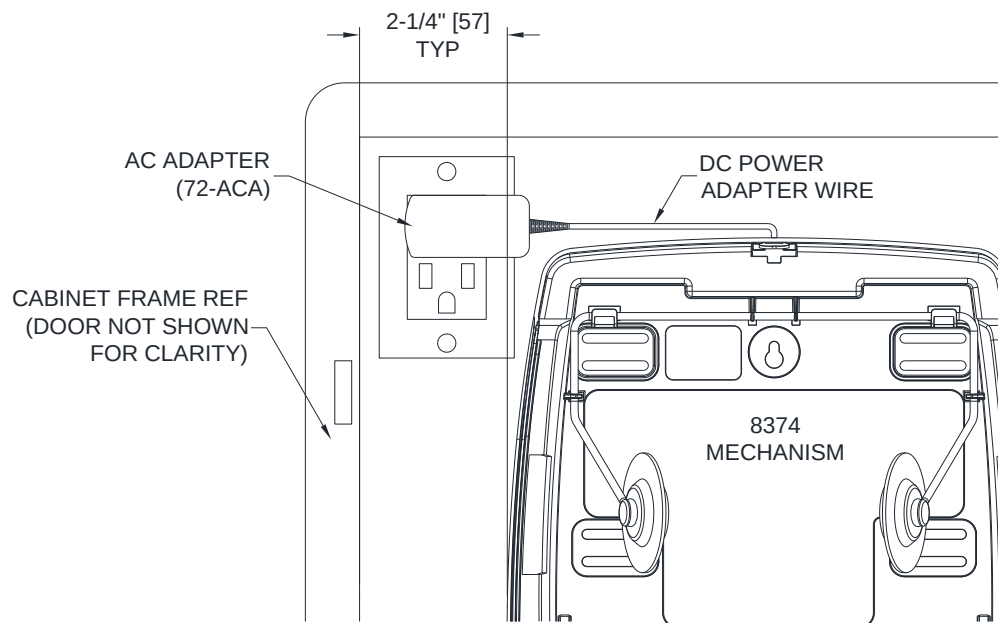

Fig. 4
1. The supplied electrical utility box is fastened with two (2) #8 - 32 x 3/8" pan-head screws (supplied) into the threaded weld nuts provided in the cabinet enclosure (see Fig. 4).
Unit will not activate at all	• Make sure batteries (if using) are in the battery compartment and in the correct configuration as shown in the graphics engraved inside the battery compartment. • Make sure AC plug is plugged into one of the utility box outlets and Ø2 plug is fully engaged into socket (see Figs. 4 and 5) on rear of the mechanism & verify that 100-240VAC is provided to duplex outlet. • Clear any/all obstructions that are too close to the unit (within 12" [305] of any side).